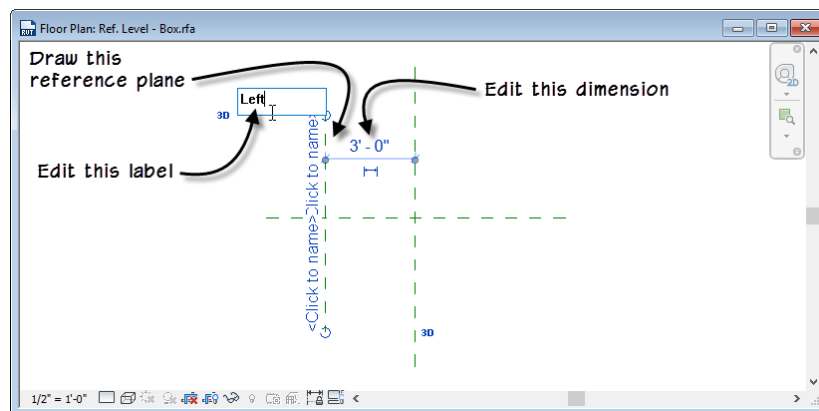

Figure 3
2. Working in the floor plan view, draw a vertical reference plane on the left of the centerline. Edit the dimension to make it: **3'-0"** from center (see Figure 3).